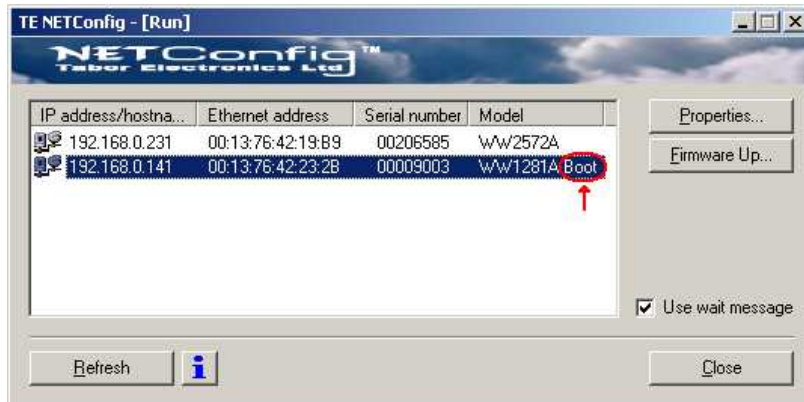

Figure 7-6, WW1281A has been Detected on the LAN Network
5. As soon as the progress bar reached the far right hand of the bar, click on the Refresh button. If your device was connected and booted correctly, the device address will appear in the device list, as shown in Figure 7-6.